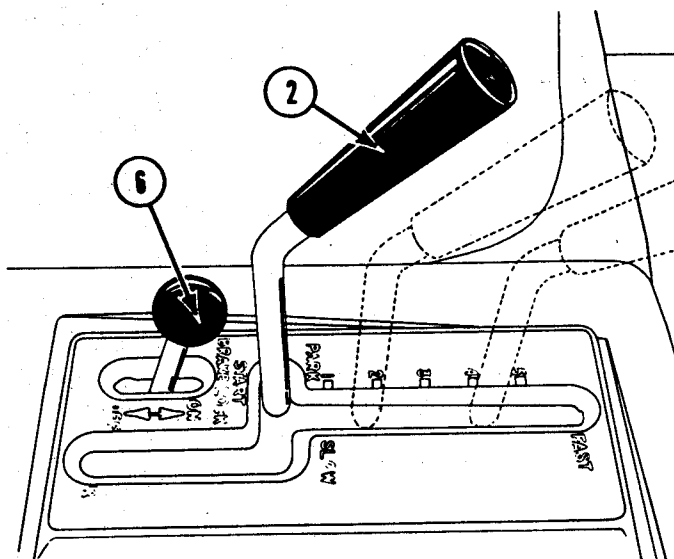
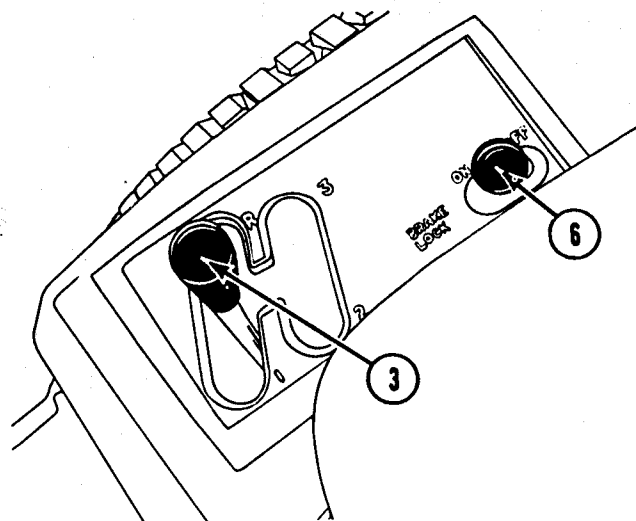

Figure 2
Figure 3
- ② **HYDROSTATIC CONTROL LEVER** (Hydrostatic Models – Figure 2)
- ③ **GEAR SHIFT LEVER** – (Gear Shift Models) – Figure 3.
THE GEAR SHIFT LEVER MUST BE IN THE FORWARD NEUTRAL POSITION AS SHOWN IN FIGURE 3 TO START THE ENGINE.
6 BRAKE LOCK – Figures 2 and 3
To lock the brake, push the brake lock forward with the foot pedal fully depressed. Then release the foot pedal. Figure 2 shows the brake lock engaged. Figure 3 shows it disengaged.
2. HYDROSTATIC MODELS. Place hydrostatic control lever (2) in the "park-start" position as shown in Figure 2.
3. GEAR SHIFT MODELS. Place gear shift lever (3) in the forward (neutral) position as shown in Figure 3.